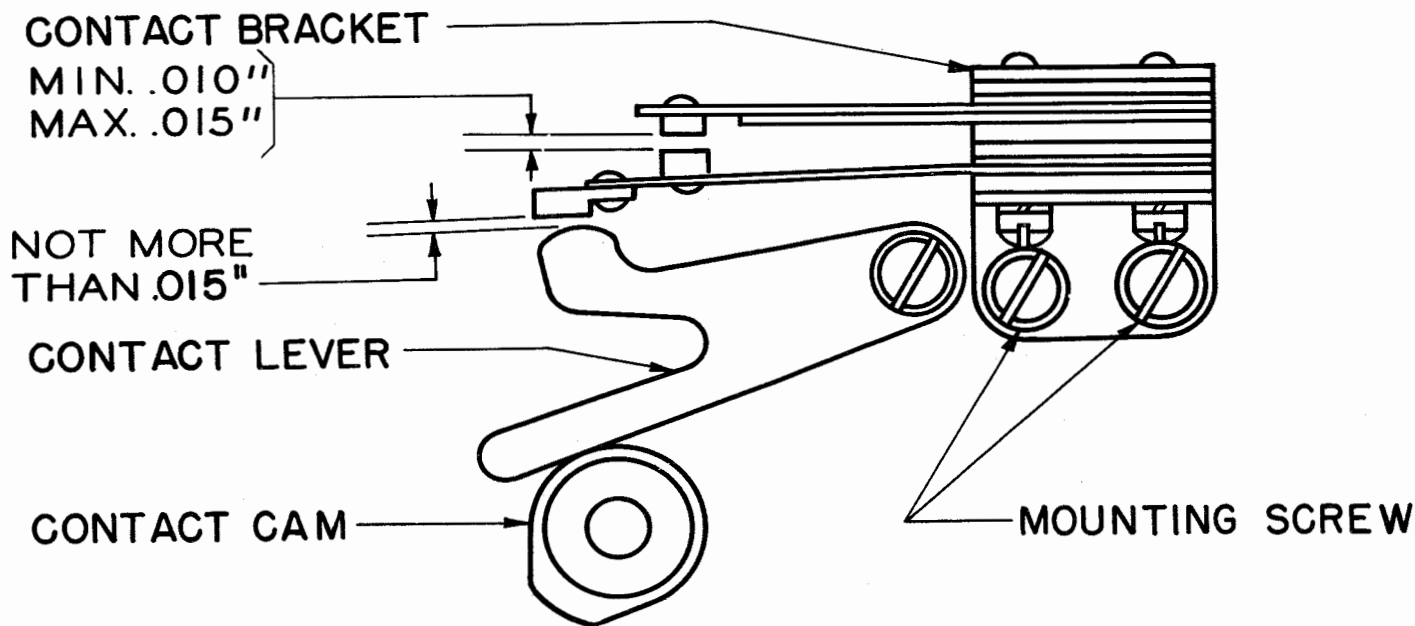

Figure 29
Adjust by bending the short contact spring and stiffener. See Figure 29.
2.66 Signal-lamp Contact Springs: When the contact-operating lever is on the low part of its cam, the gap between contacts should be as specified in the figure. See Figure 29.
2.67 Signal-lamp Contact Springs: When the contact-operating lever is on the low part of its cam, the insulator on the end of the long-contact spring should clear the contact-operating lever by the amount specified in the figure. See Figure 29.